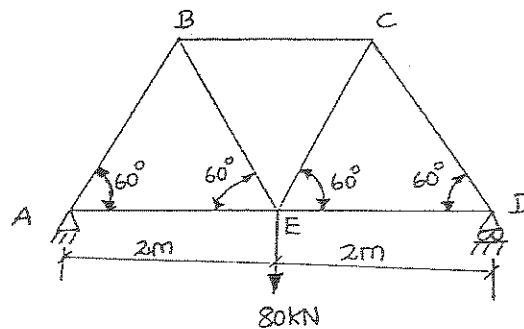

Fig. Q16 (a)
16. (a) Determine the vertical displacement of joint E of truss shown in Fig. Q16 (a) due to given loading and due to member BE and CE being  $10 \text{ mm}$  too long. Given, for all members cross sectional area =  $1000 \text{ mm}^2$ , Young's modulus =  $200 \text{ kN/mm}^2$ .